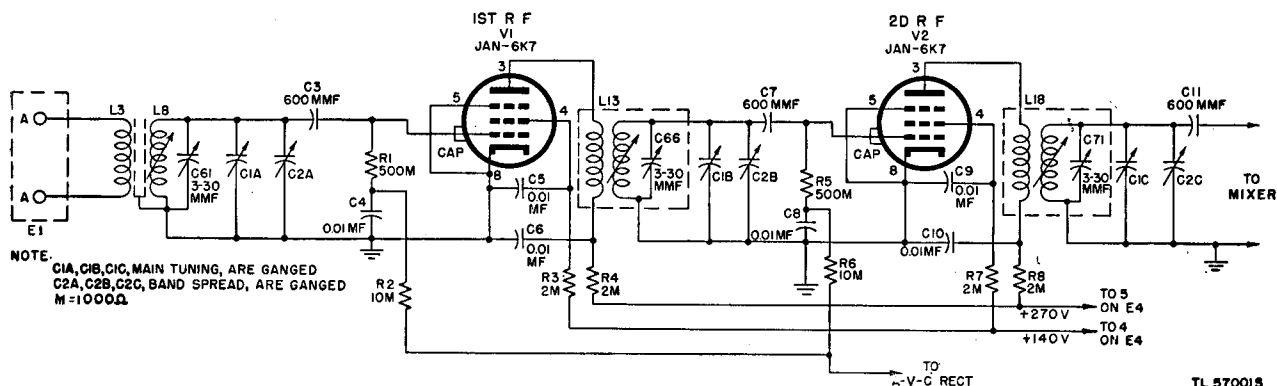

Figure 25. Radio Receiver BC-779-B, functional diagram of r-f amplifier.
59. R-F Amplifier (fig. 25)
For simplicity, only the circuits for the 2.5- to 5.0-mc band are shown and the band switching arrangement is omitted from figure 25. The band switching circuits are discussed in paragraph 68.
c. DIFFERENCES IN R-F CIRCUITS. (1) *Plate supply.* In Radio Receivers BC-779-(*), BC-1004-(*), and R-129/U, plate voltage is series-fed through resistance-capacitance (R-C) decoupling circuits and the r-f transformer primaries (fig. 25). In Radio Receiver BC-794-(*) plate voltage is shunt-fed by means of choke L35 and 300-mmf capacitor C57 in the first stage, and choke L36 and 300-mmf capacitor C58 in the second stage (figs. 26 and 57). This method was chosen to keep plate voltage off the tuned impedance interstage coupling circuits L49, C99, and L50, C100, of the 20-40-mc band. Decoupling filters R4, C6, and R8, C10, are not included.